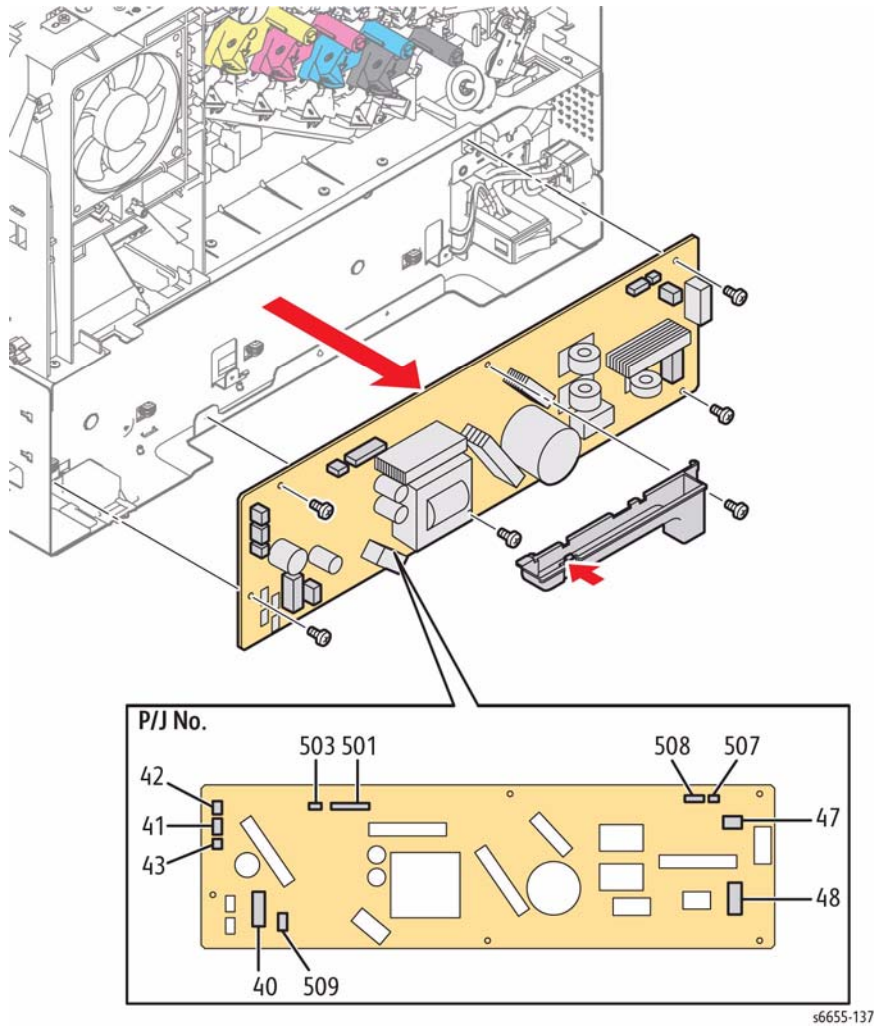

Figure 1 Remove the LVPS
4. Refer to Figure 1 to locate and remove one screw (silver, 6 mm) attaching the Stapler Earth Plate to the printer and remove the plate.
5. Refer to Figure 1 to locate and remove three screws (silver, tapping, 8 mm) attaching the Stapler Assembly to the printer, and remove the Stapler Assembly together with the Stapler Interlock Harness Assembly.